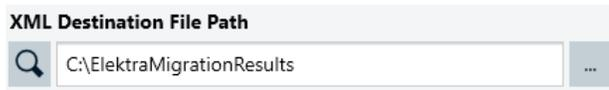

Figure 7: XML Destination File Path
By default, the converted files are stored in the location defined in Figure 7.
1. Click the  button shown in Figure 7.